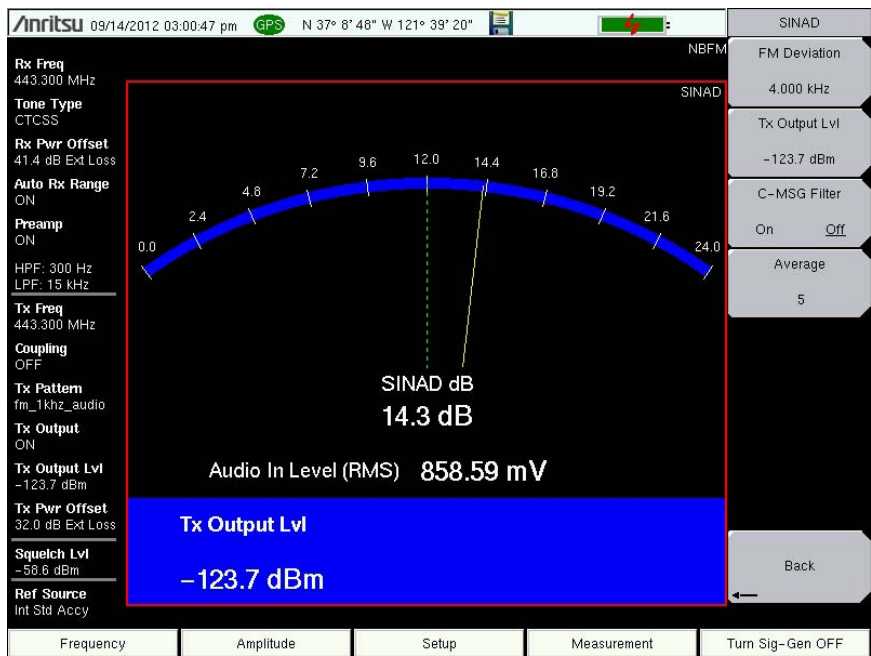

Figure 2-10. 12 dB SINAD with Signal Generator On and Meter Showing the SINAD Level
8. Increase the LMR Master Tx Output Lvl until the needle on the SINAD meter is near the center of the display and equals 12 dB (Figure 2-10). The power level displayed on the left side of the blue bar is the 12 dB SINAD level.